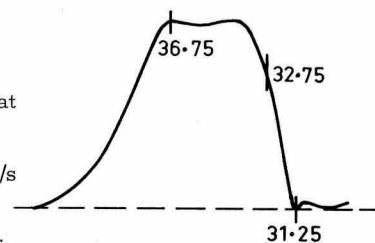

FIG. 8.
6. Adjust primary and secondary of sound detector IFT 4 for response as in Fig. 8.